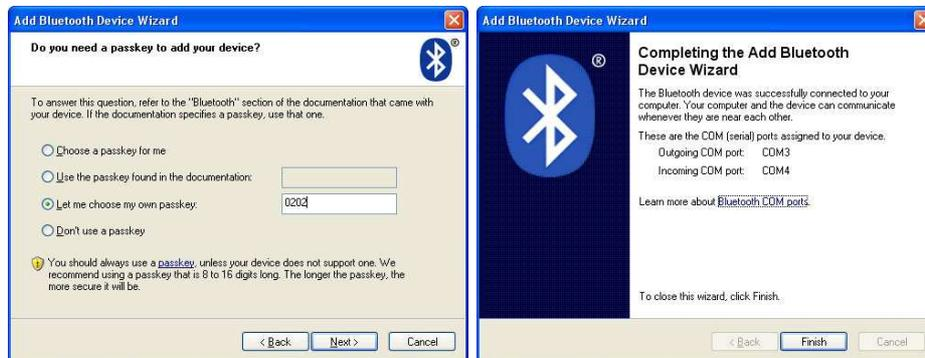

Figure 14: Enter the pin code corresponding to the number of your e-puck robot. The wizard will set a COM port corresponding to your robot.
4. As illustrated in figure 14 left, please enter the pin code to access to your e-puck. The default pin code is the same number as the number you have in the e-puck identifier. In the example given here, for the e-puck number *0202* the pin code is *0202*.
5. As illustrated in figure 14 right, the wizard will choose the COM service of the e-puck robot. The COM service to use is the **Outgoing** one, in figure 14 right it is COM3.